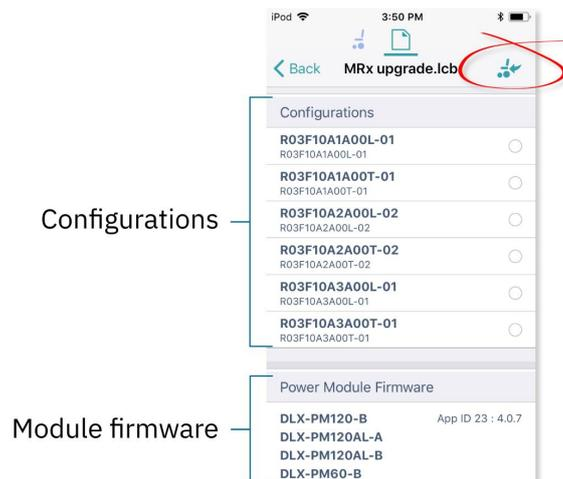

Figure 62: Contents of bundle file
4. Tap on the bundle file (\*.lcb) that you want to write to the wheelchair. The contents of the bundle file will be displayed — see *Figure 62* — with configurations at the top, and module firmware below.